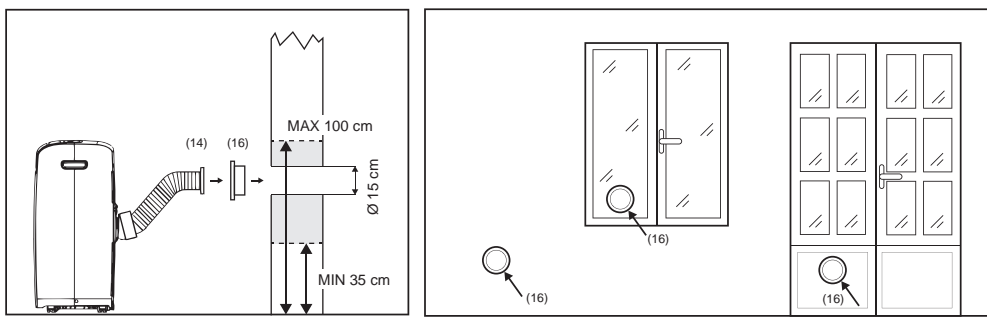

Fig. 7&8
- Drill a hole in an outside wall or through a window pane. Ensure the MIN / MAX dimensions for the hole size and its position are adhered to. (Fig. 7 and 8)